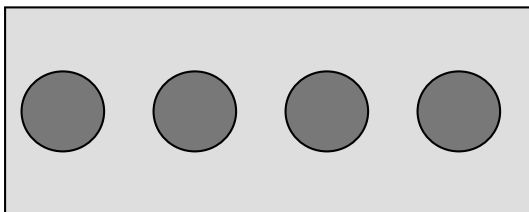
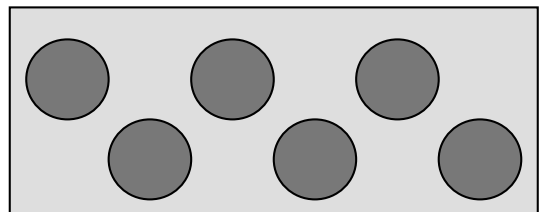

Figure 2a
Figure 2b
6.2 Prepare TDU enclosure by selecting and marking tube cable entry point locations. To best optimize TDU capacity, it is recommended to stagger tube cable entry locations if possible. **See Fig. 2a and Fig. 2b.**